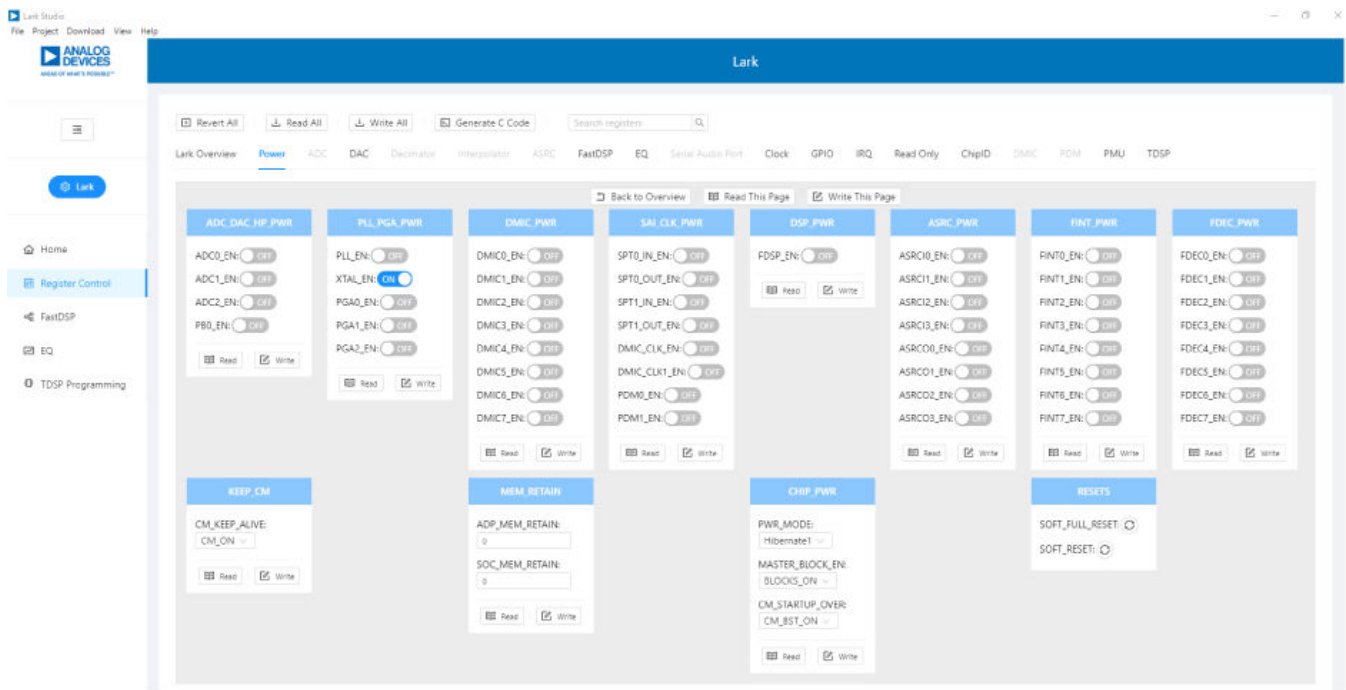

Figure 5. Register Configurations
Configure the **Register Control**, **FastDSP**, and **EQ** settings on the left navigation panel. **Lark Register Control** has multiple tabs that control different sections of the ADAU1860. Figure 5 shows the **Power** tab, which allows the user to power up or power down various blocks within the ADAU1860. When a block is powered up, that block can be configured.
1. Select **Hibernate1**, **BLOCKS\_ON**, and **CM\_BST\_ON** in the **CHIP\_PWR** block in the **Power** tab, and then click **Write** (see Figure 5).